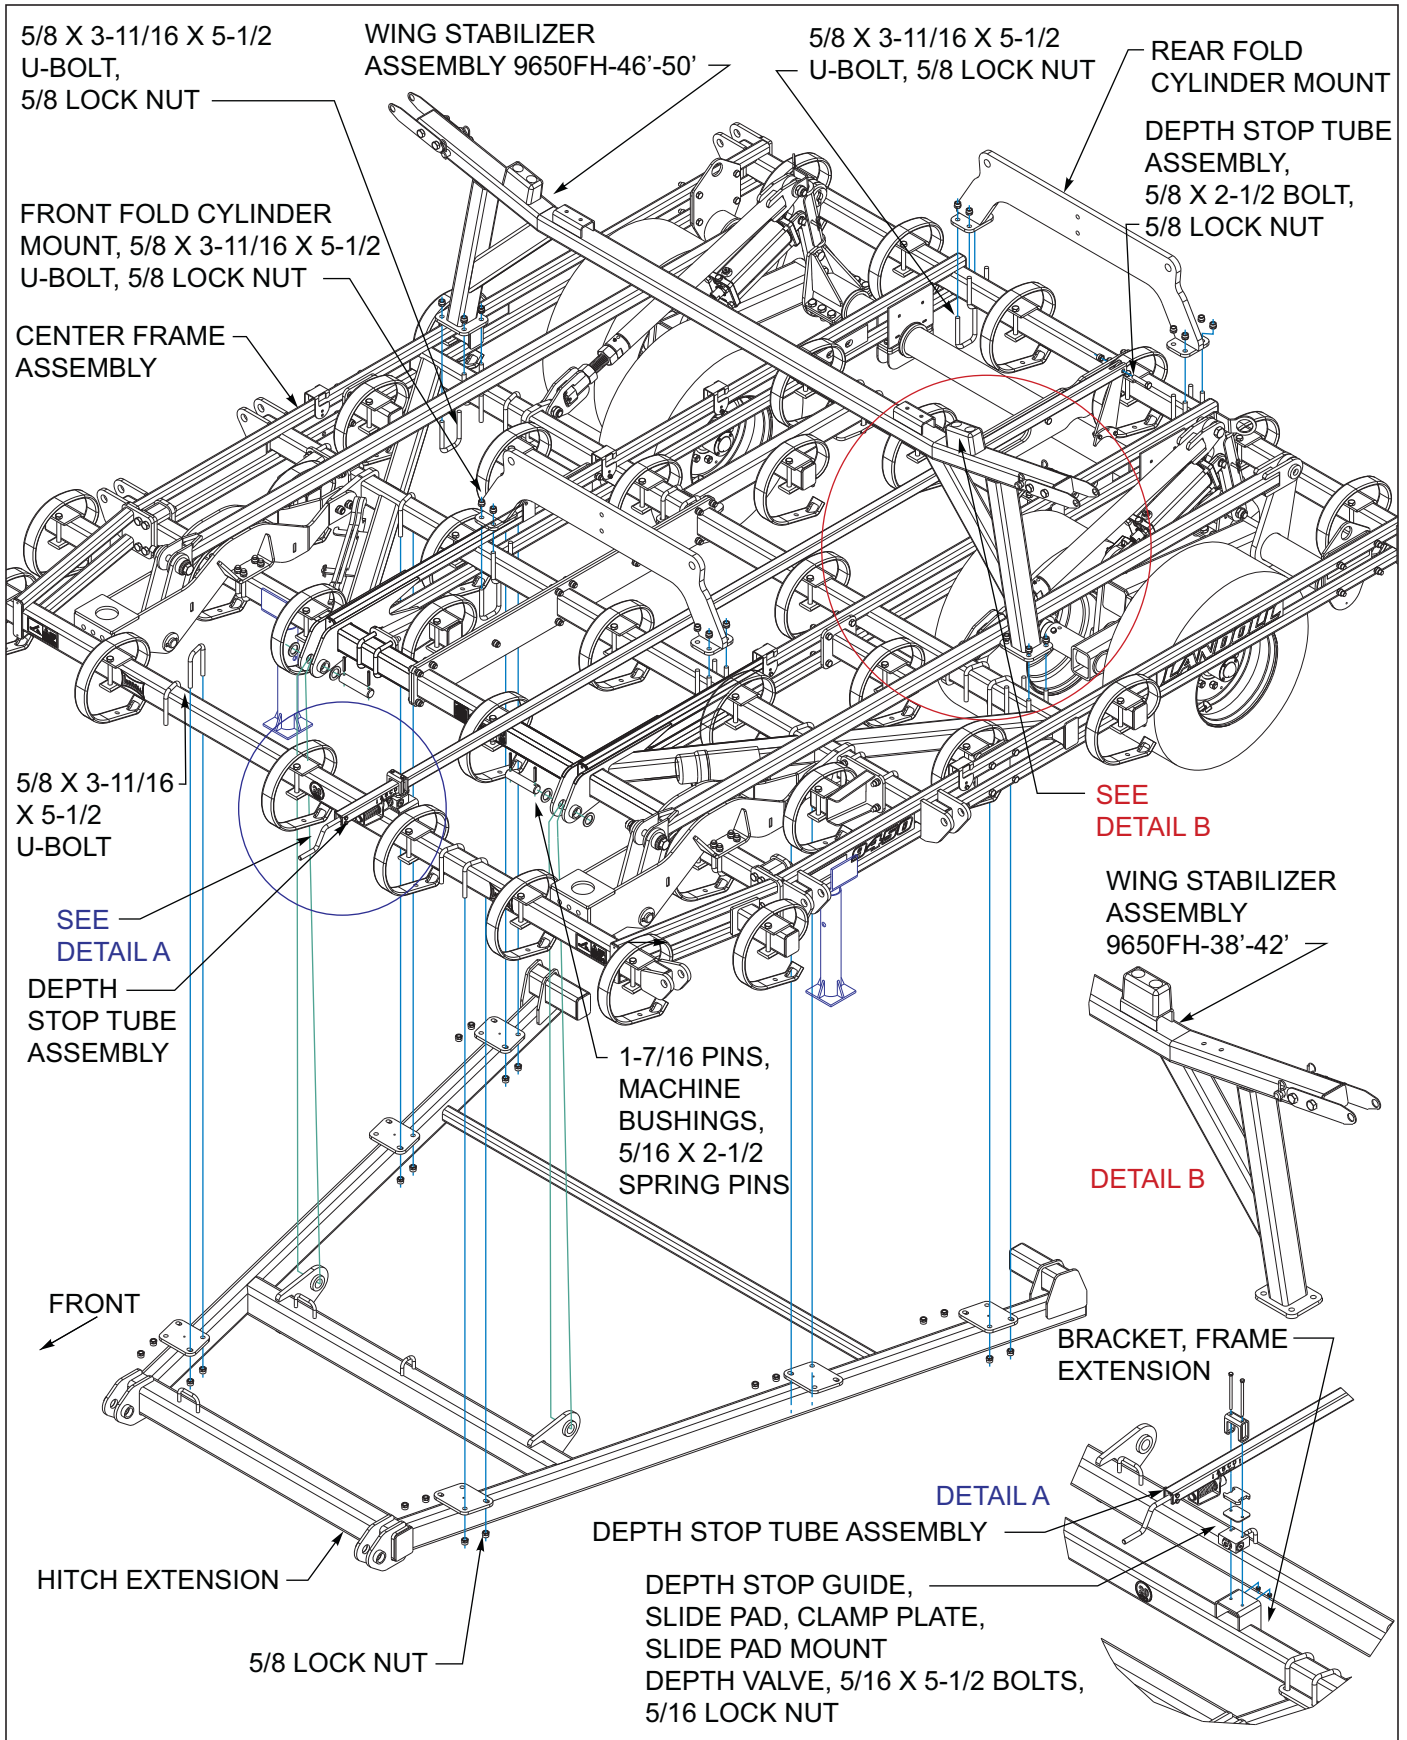

Figure 3-3: Center Frame Fold & Depth Control Assembly
1. Attach the hitch extension to bottom side of frame assemblies with 5/8 x 3-11/16 x 5-1/2 u-bolts and lock nuts *See Figures 3-3*. Attach hitch extension ears to front of center frame with 1-7/16 pins, machine bushings and 5/16 x 2-1/2 spring pins.
4. Align holes of the depth valve with plunger to front of machine to holes of bracket on the frame extension. Use the depth valve mounting holes closet to the plunger when mounting. Insert the slide plate, clamp plate, depth stop tube assembly and slide pad mount in orientation shown *See Figure 3-3*, Detail A, secure with 5/16 x 5-1/2 bolts and 5/16 lock nuts.
Location of rubber mount for models 9450FH-38'-42' and 9450FH-46'-50' See Figures 3-3, Detail B.